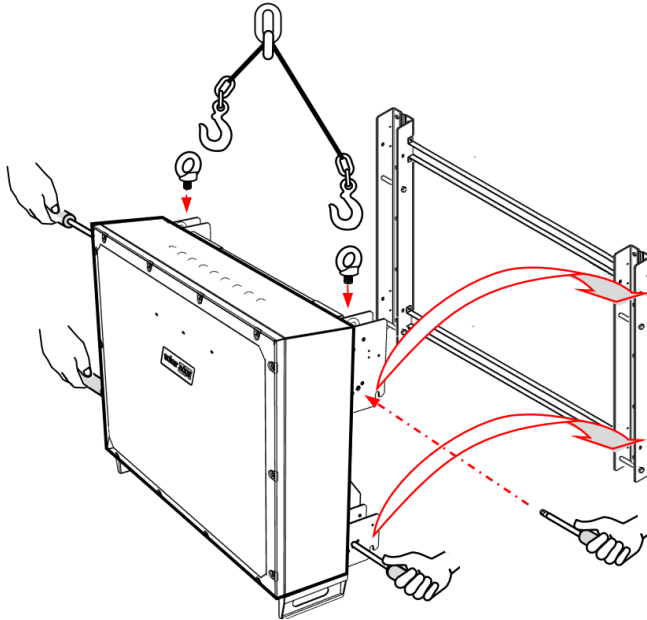

Figure 19: Mounting the inverter before wiring is laid down
1. Anchor the screw-in handle to to any point at the inverter (see *Figure 19*).
4. Align the four hangers on the back inverter enclosure with the mounting bracket and lower the inverter until it rests on the bracket evenly (see *Figure 19*).
1. Anchor the screw-in handle to any point at the inverter (see *Figure 19*).
6. Align the four hangers on the back inverter enclosure with the mounting bracket and lower the inverter until it rests on the bracket evenly (see *Figure 19*).